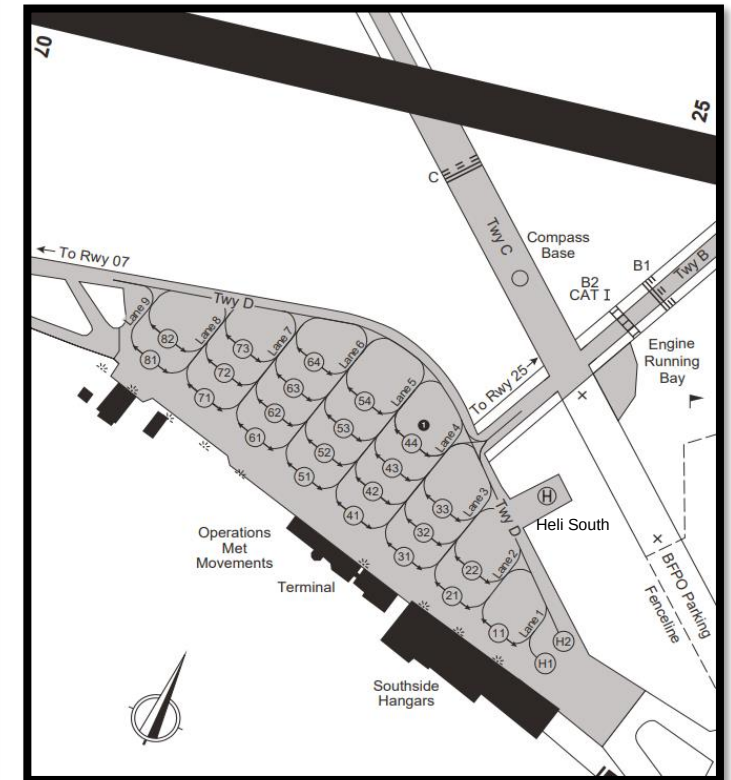

Figure K-3 Depicting H1, H2 and Heli South
2. **RW Ops.** In addition to the Stands, RW Aircraft can use Helipad South or the RW Aircraft parking spots at H1 and H2 (see Figure K-3). Helipad South is suitable for large helicopters, including Chinook, Merlin and Puma and equivalent foreign military rotary Aircraft (e.g. CH-53).